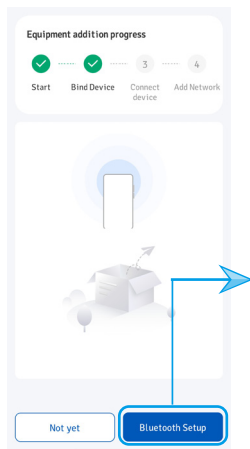

Figure 28
02. Enable Bluetooth and GPS on your phone, then tap "Bluetooth Configuration", as shown in Figure 28.